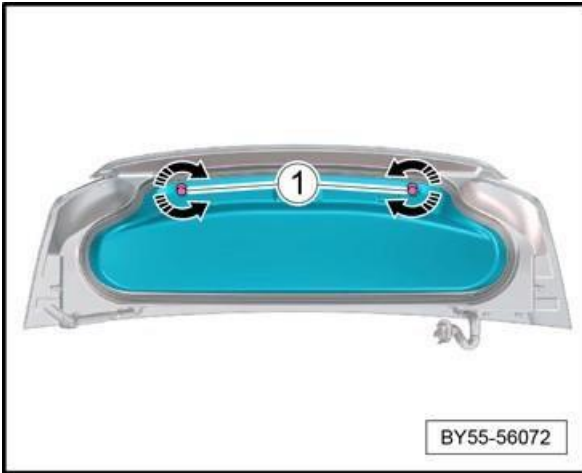

Figure 1
- Within the Boot lid to set procedure - Ensure the boot bump stops are adjusted to specification (Figure 1)